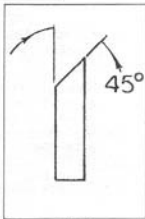

Fig. 5
- Sharpen at a 45-degree angle as shown in Figure 5